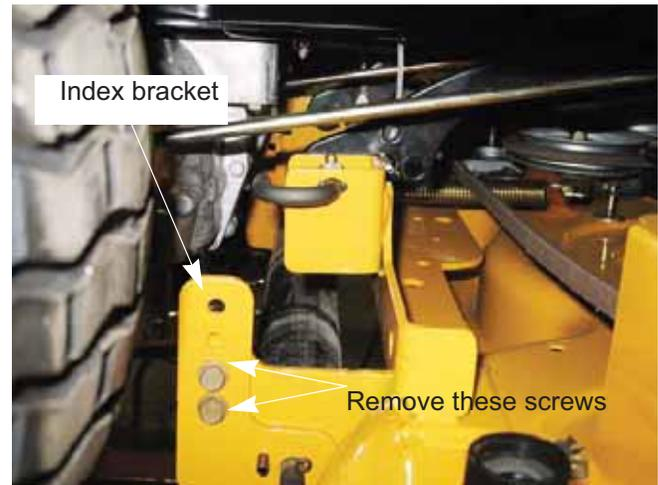

Figure 8.22
- A Support the roller assembly and remove the two self tapping screws from both the left and right roller index brackets. See Figure 8.22.